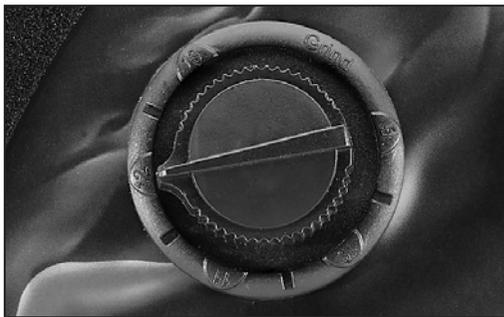

FIG. 7
- When welding current is large and the light of molten pool is very strong, you need to select the delay (11) to high, so you can avoid the eye injury by the light of molten pool.
- If you want to do spot welding, you need to put the delay (11) to low, so you can improve the work efficiency.
- Adjust delay (11) to middle place is suitable for most of welding projects.
7.4 WELDING/GRINDING/CUTTING FUNCTION – FIG.7